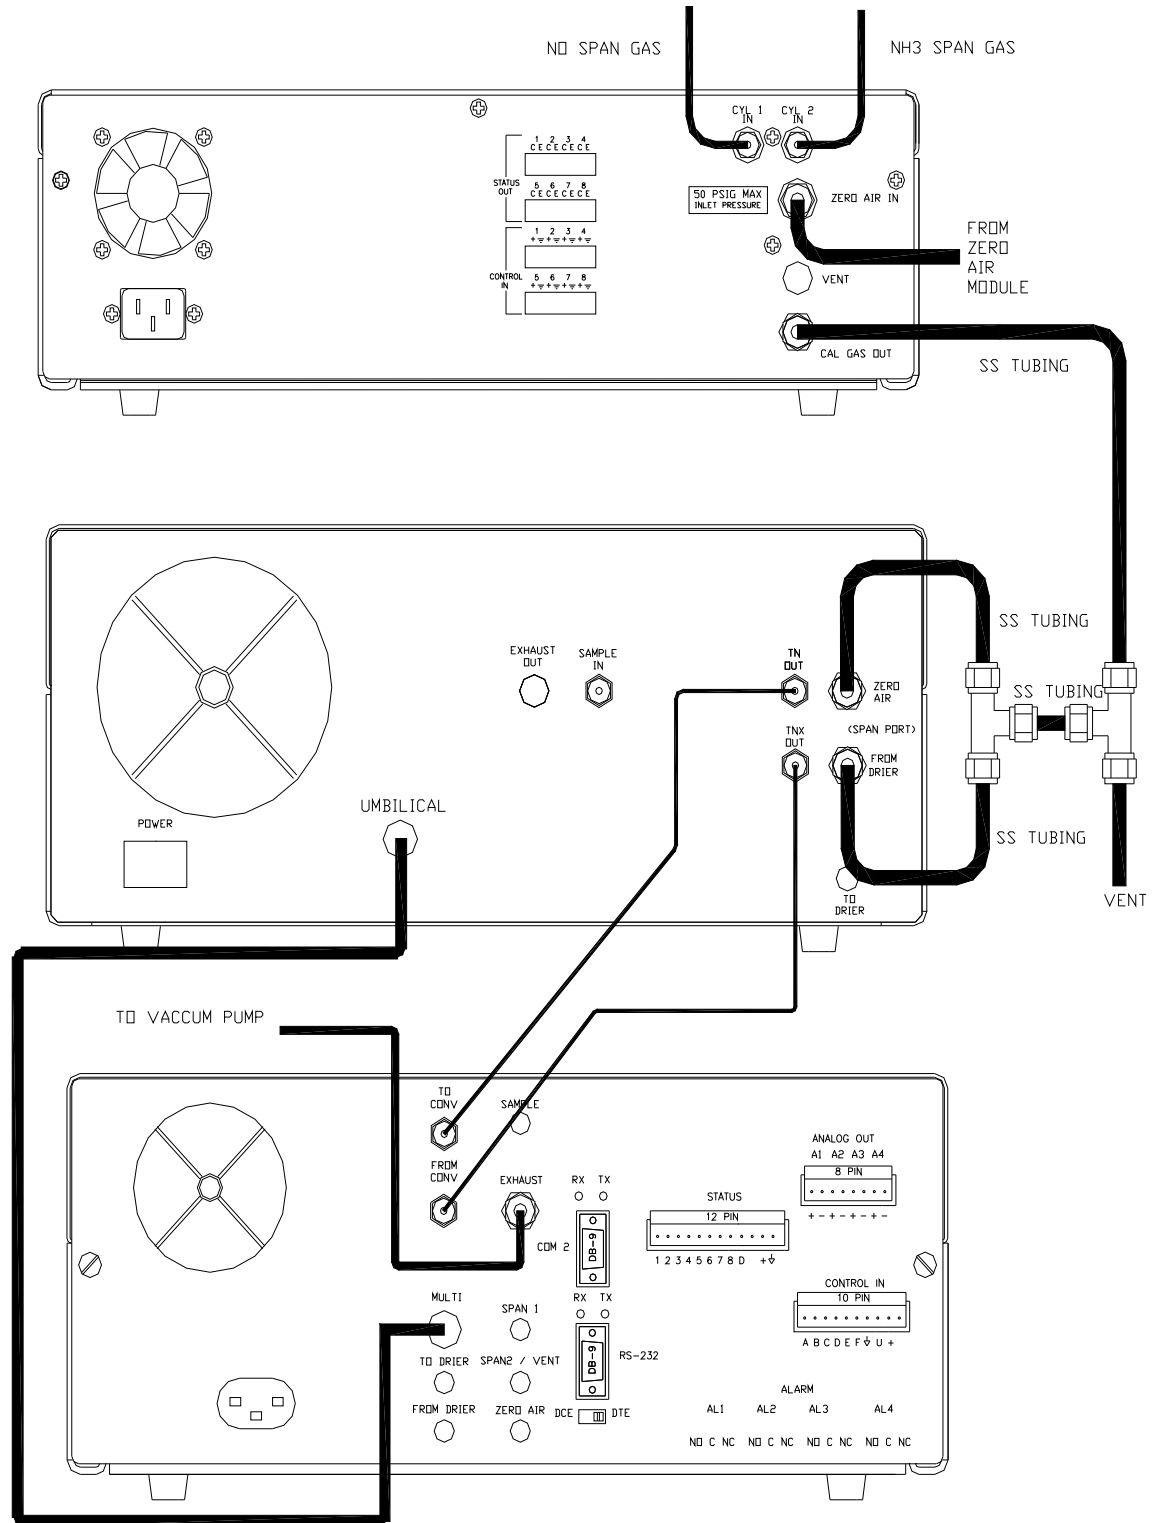

Figure 1-1. M201E Pneumatic Connection Diagram with External Calibrator Option (ECO)
- The M201E with External Calibrator Option (ECO) is shown in Figure 1-1.
- Assemble the M201E analyzer according to the pneumatic configurations outlined in Figure 1-1. Remember: **DO NOT** pressurize the sample, span or zero ports (Zero/SPAN valves are optional) during calibration. Allow the analyzer to pull the gas through the system using the vacuum pump.